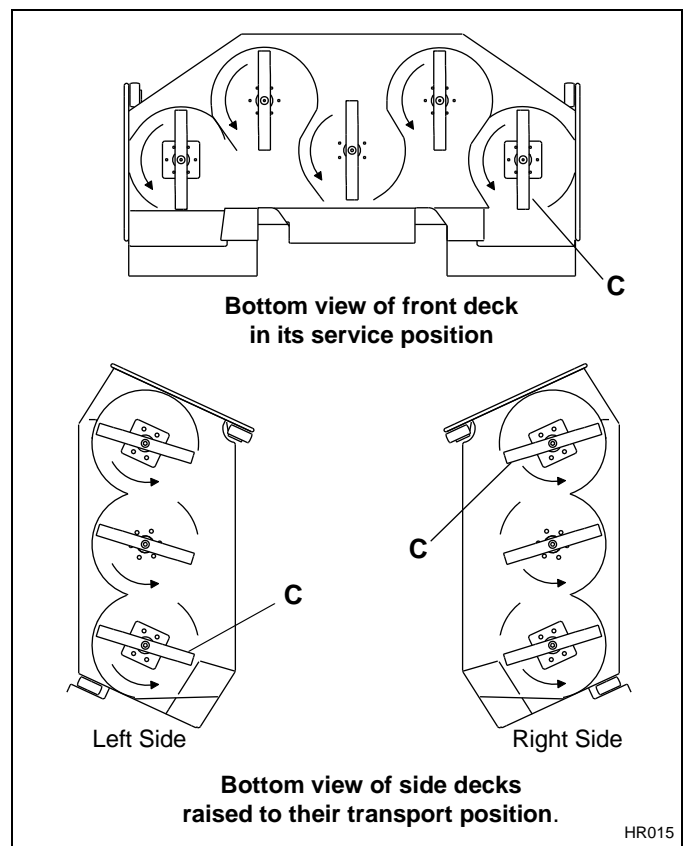

Figure 4C
5. Attach blade to mower. Install blades so cutting edges (C) face the direction of rotation as shown in **Figure 4C**. Beveled cutting edge of blade must face in toward deck housing.